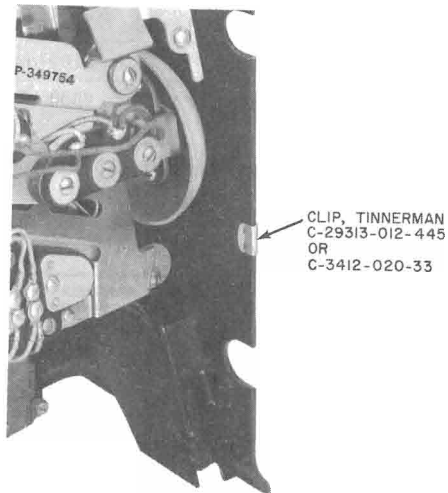

Fig. 16—Method of Grounding Upper Housing to Backplate
- Place U-shaped spring clip on left edge of upper housing so as to contact housing contact spring (Fig. 16).